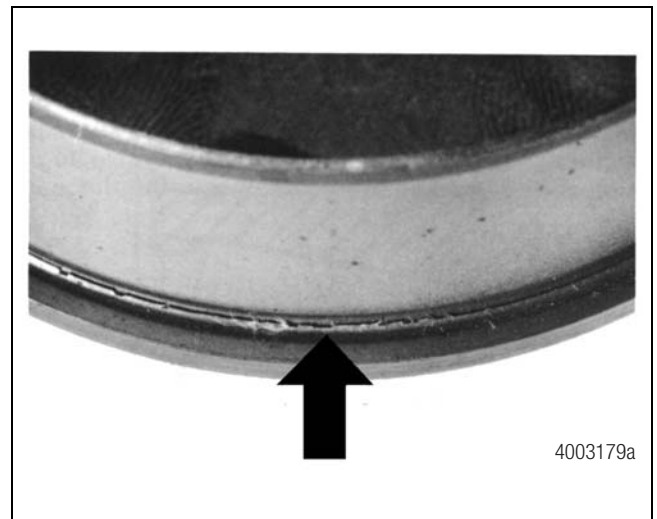

Figure 4.6
B. The rib is worn. Figure 4.6.